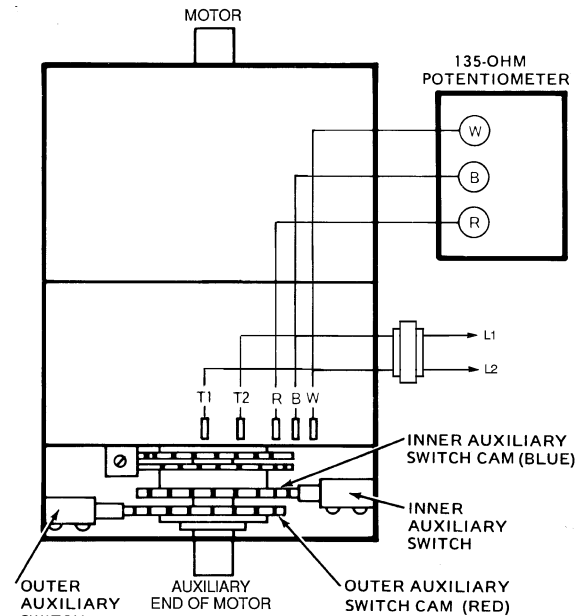

Fig. 83 — Auxiliary Switch Stroke Adjustment
2. Disconnect controller from motor. Connect RED, WHITE, and BLUE terminals on the 135-ohm manual potentiometer to corresponding RED, WHITE, and BLUE terminals on the motor. Connect 24-vac power to Terminals 1 and 2. See Fig. 83.